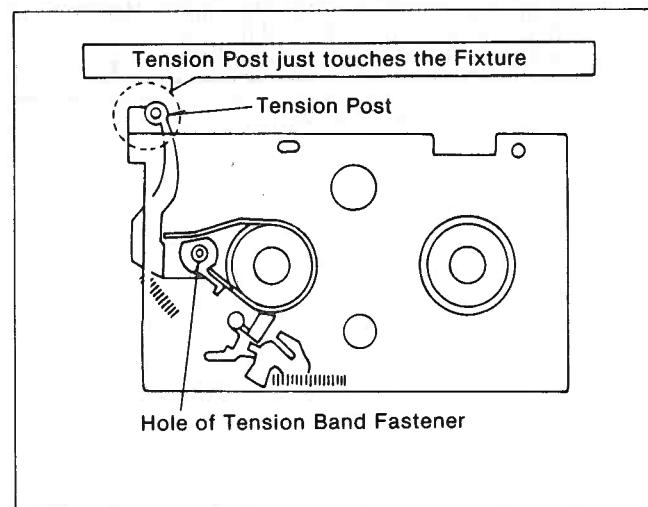

Figure M34
4. Place the Adjustment Plate and insert the hex wrench into the hole of Tension Band Fastener as shown in Figure M34.